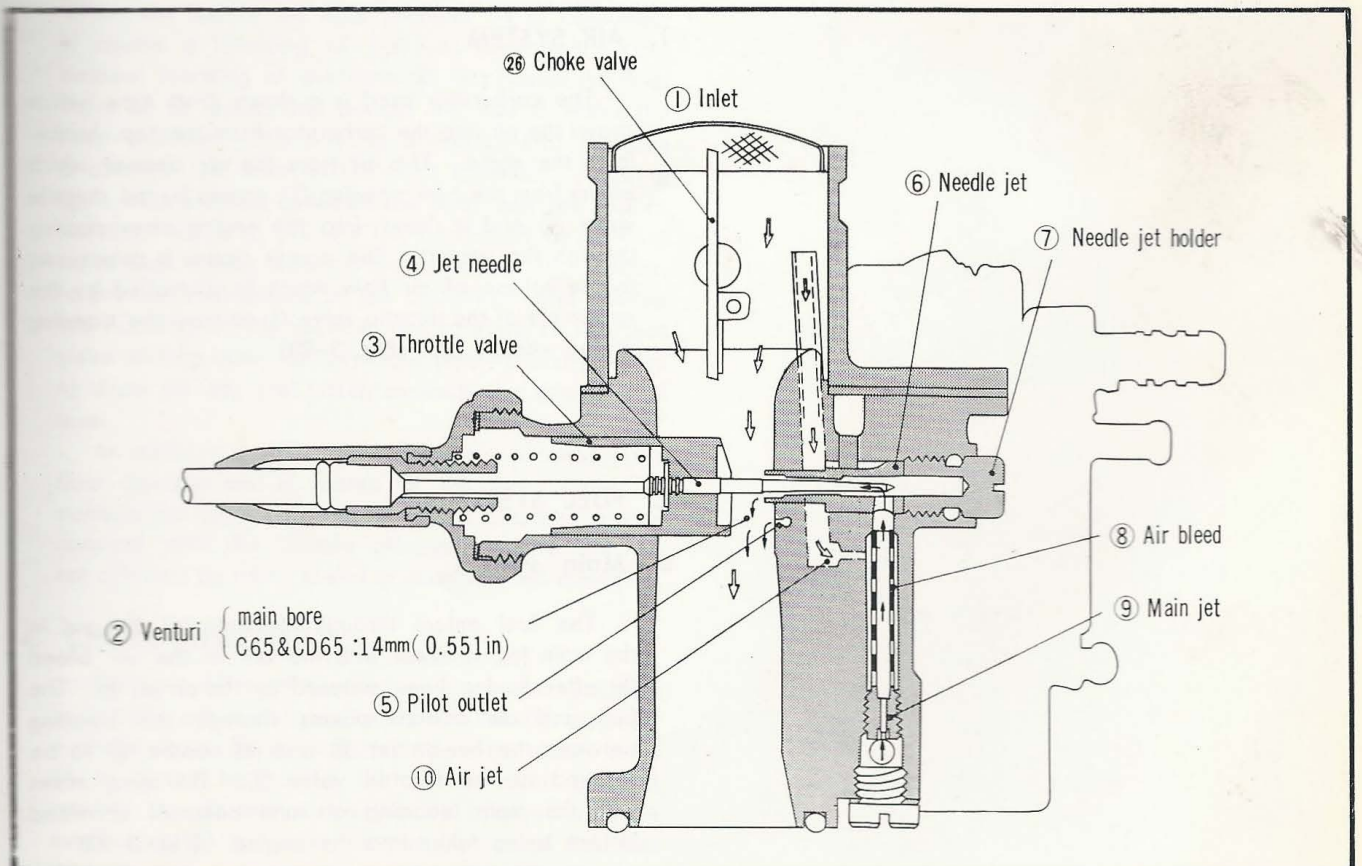

Figure 3-93. Carburetor sectional diagram
The carburetor used is a down draft type which draws the air into the carburetor from the top, henceforth the name. The air from the air cleaner which enters from the inlet opening ①, passes by the throttle valve ③ and is drawn into the engine after passing through the venturi. The power output is determined by the volume of air flow which is controlled by the movement of the throttle valve ③ to vary the opening of the venturi ②. (Fig. 3-93)
The fuel enters through the main jet ⑨, and in the main jet, it mixes with the air in the air bleed ⑧ after having been metered by the air jet ⑩. The fuel and air mixture passes through the opening between the needle jet ⑥ and jet needle ④ to be sprayed at the throttle valve ③. The spray mixes with the main incoming air and becomes atomized before being taken into the engine. (Fig. 3-93)